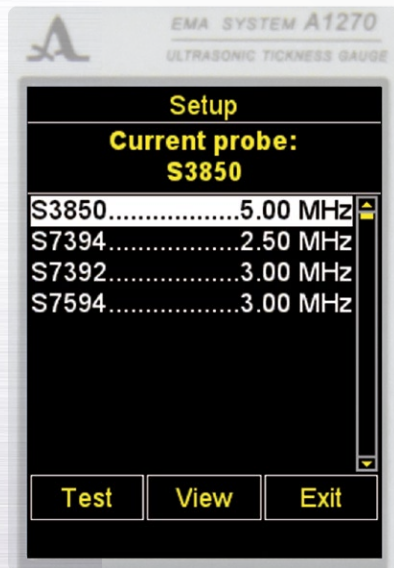

Figure 16
- Using the keys   go to the line with the name of the connected probe (transducer) and press the key  to select it (Figure 16).